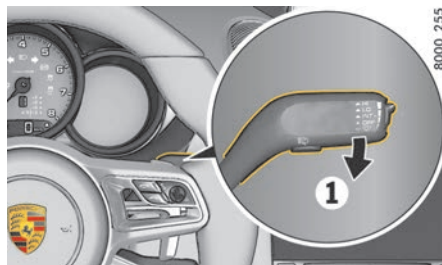

Fig. 249: Wiper stalk
1. Press the wiper stalk downwards (Fig. 249, 1) once.